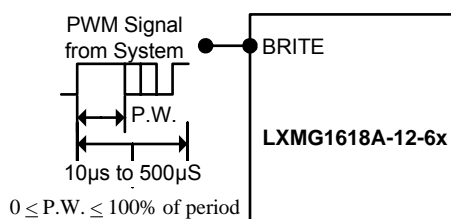

Figure 1A – PWM Brightness Control
- The brightness control may be a voltage output DAC or other voltage source, a digital pot or 500K manual pot. The inverter contains an internal 338K pull-up in series with 71.5k to 3V to bias the pot, if desired; add a resistor to set the lower threshold voltage above the absolute minimum dim level capability. A PWM logic level signal (figure 1A) may be used up to 5V; however the inverter will reach maximum current at less than 100% duty cycle. This can be calculated as approximately 2V divided by the logic high voltage level; with 3.3V logic level this corresponds to about 60% duty cycle for maximum lamp current.